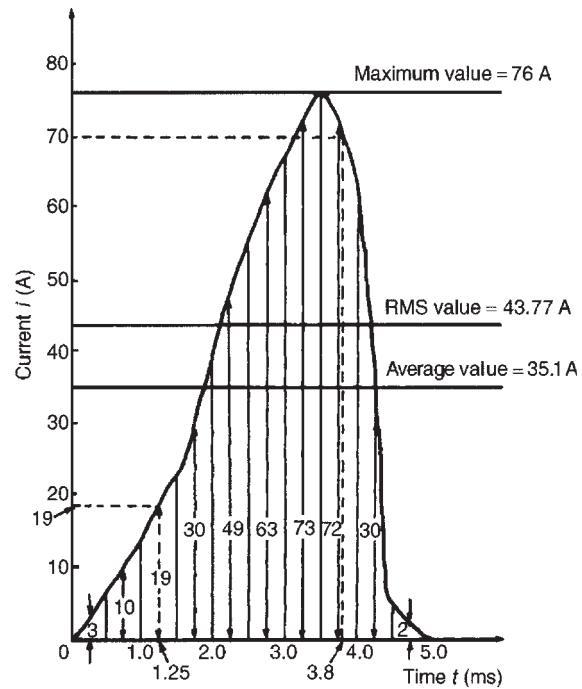

Figure 14.6
The half-cycle of alternating current is shown plotted in Fig. 14.6
- (b) Instantaneous value of current after 1.25 ms is **19 A**, from Fig. 14.6. Instantaneous value of current after 3.8 ms is **70 A**, from Fig. 14.6
$$\begin{aligned} \text{area under curve} &= (0.5 \times 10^{-3})[3 + 10 + 19 + 30 \\ &\quad + 49 + 63 + 73 \\ &\quad + 72 + 30 + 2] \\ &\quad \text{(see Fig. 14.6)} \\ &= (0.5 \times 10^{-3})(351) \end{aligned}$$